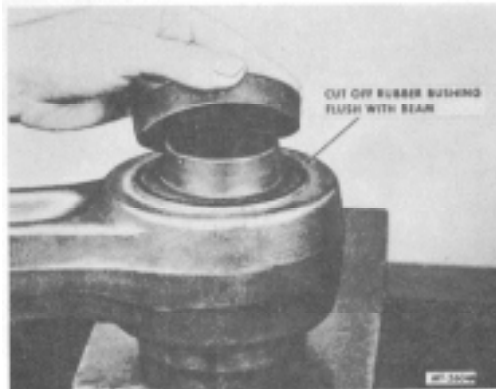

Fig. 7 Preparing for Removal of Beam End Bushing
1. Cut off rubber bushing flush with equalizer beam, as shown in Fig. 7. Rubber must be removed to permit adapter to contact bushing sleeve squarely.
1. Cut off rubber bushing flush with torque rod, as instructed for equalizer end bushing removal. Refer to Fig. 7.